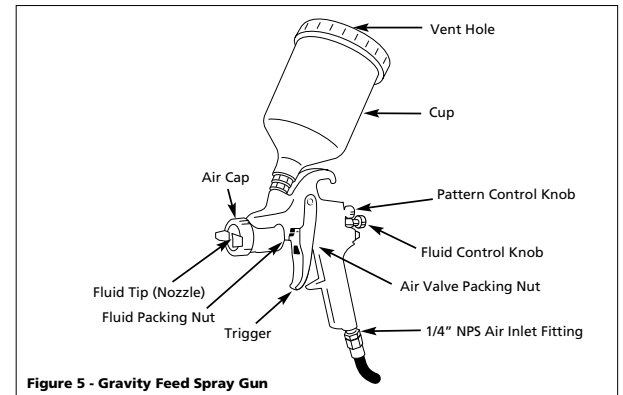

Figure 5 - Gravity Feed Spray Gun
- Unscrew packing nuts and replace the packing ONLY if a leak will not stop when the nut is tightened (See Figure 5). Do not over-tighten a packing nut because this will restrict movement of the needle.